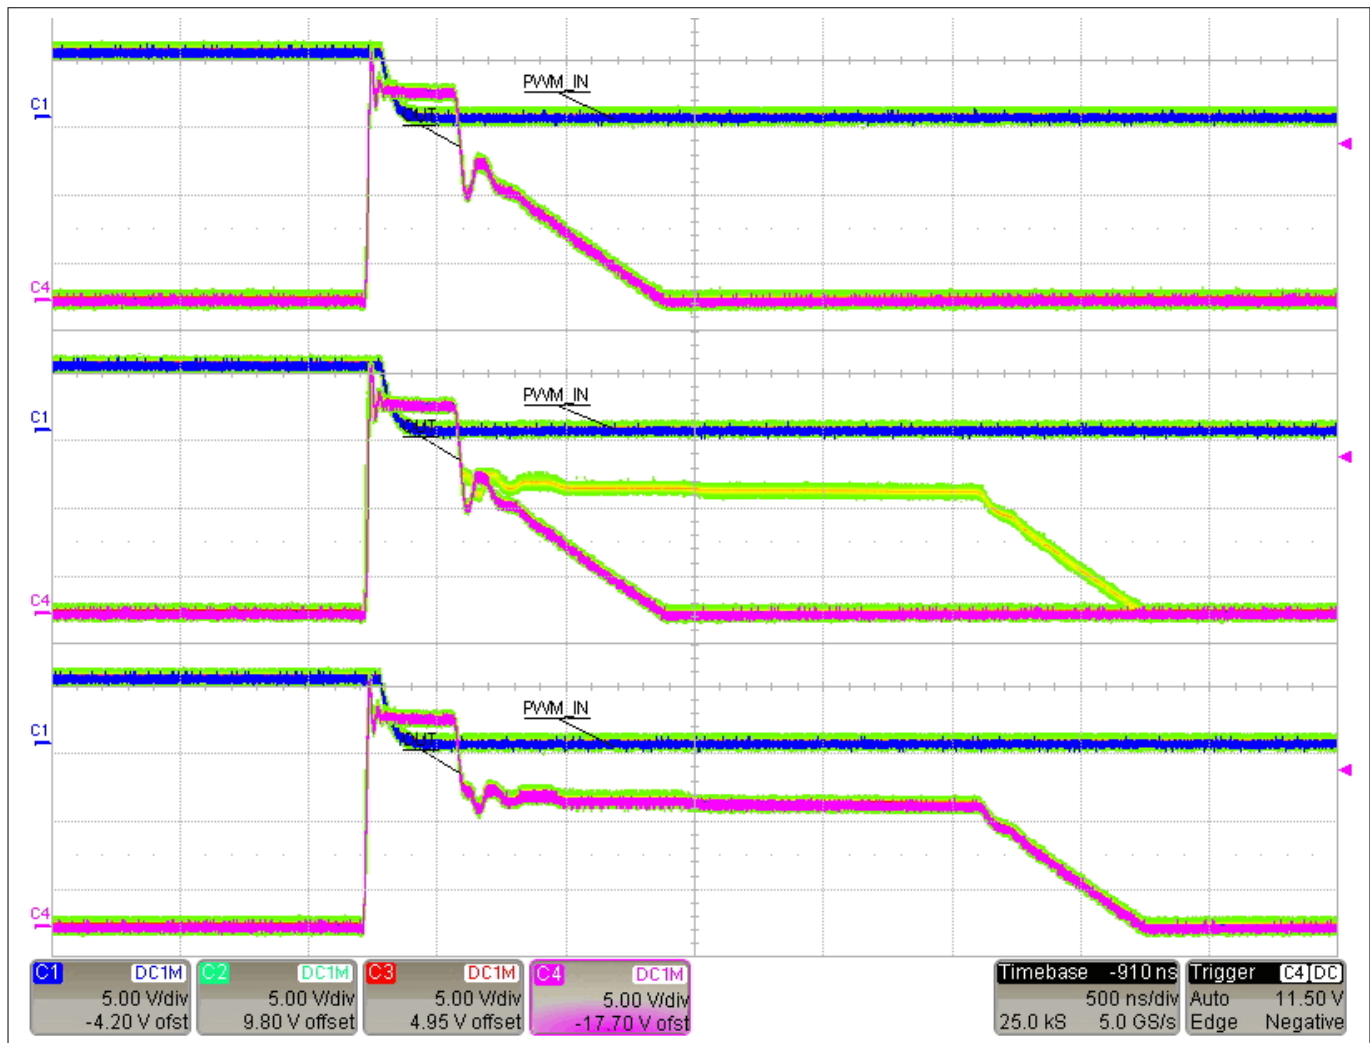

Figure 4 Combined image of two-level turn-off short pulse operation with minimal gate load
- short turn-on with ramp B turn-off ($t_{TLTOff} + t_{RISE,load} < t_{ONpulse} < t_{TLTOff} + t_{RISE,load} + t_{CLFILT,x}$), see Figure 4: top waveforms
- jitter between ramp B turn-off and full TLTOff sequence ($t_{TLTOff} + t_{RISE,load} + t_{CLFILT,x} < t_{ONpulse} < t_{ON,min}$), see Figure 4: middle waveforms, and
- complete TLTOff sequence ($t_{ONpulse} > t_{ON,min}$), see Figure 4: bottom waveforms